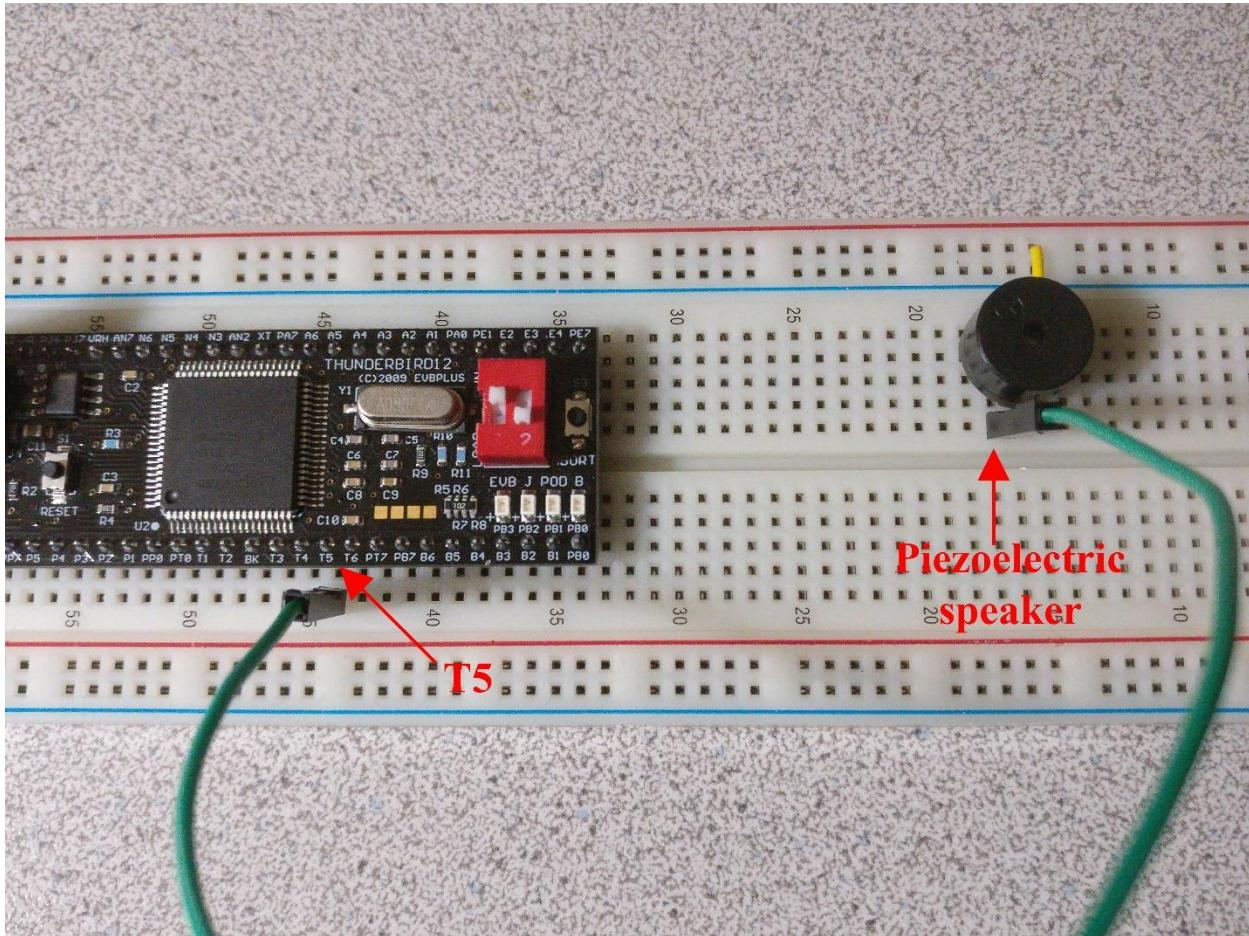

Figure 8-11 – Piezoelectric speaker connected to PT5 on Thunderbird12
- c. Plug the flexible wire in such that one end is in the same row as the unused pin for the piezoelectric speaker and the other end into T5 on the bottom row of the Thunderbird. Refer to Figure 8-11 for an example of what the wiring should look like.